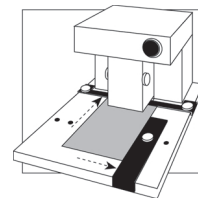

Fig. 1
- 2 - Position card against the back & side alignment guides. [Figure 1]